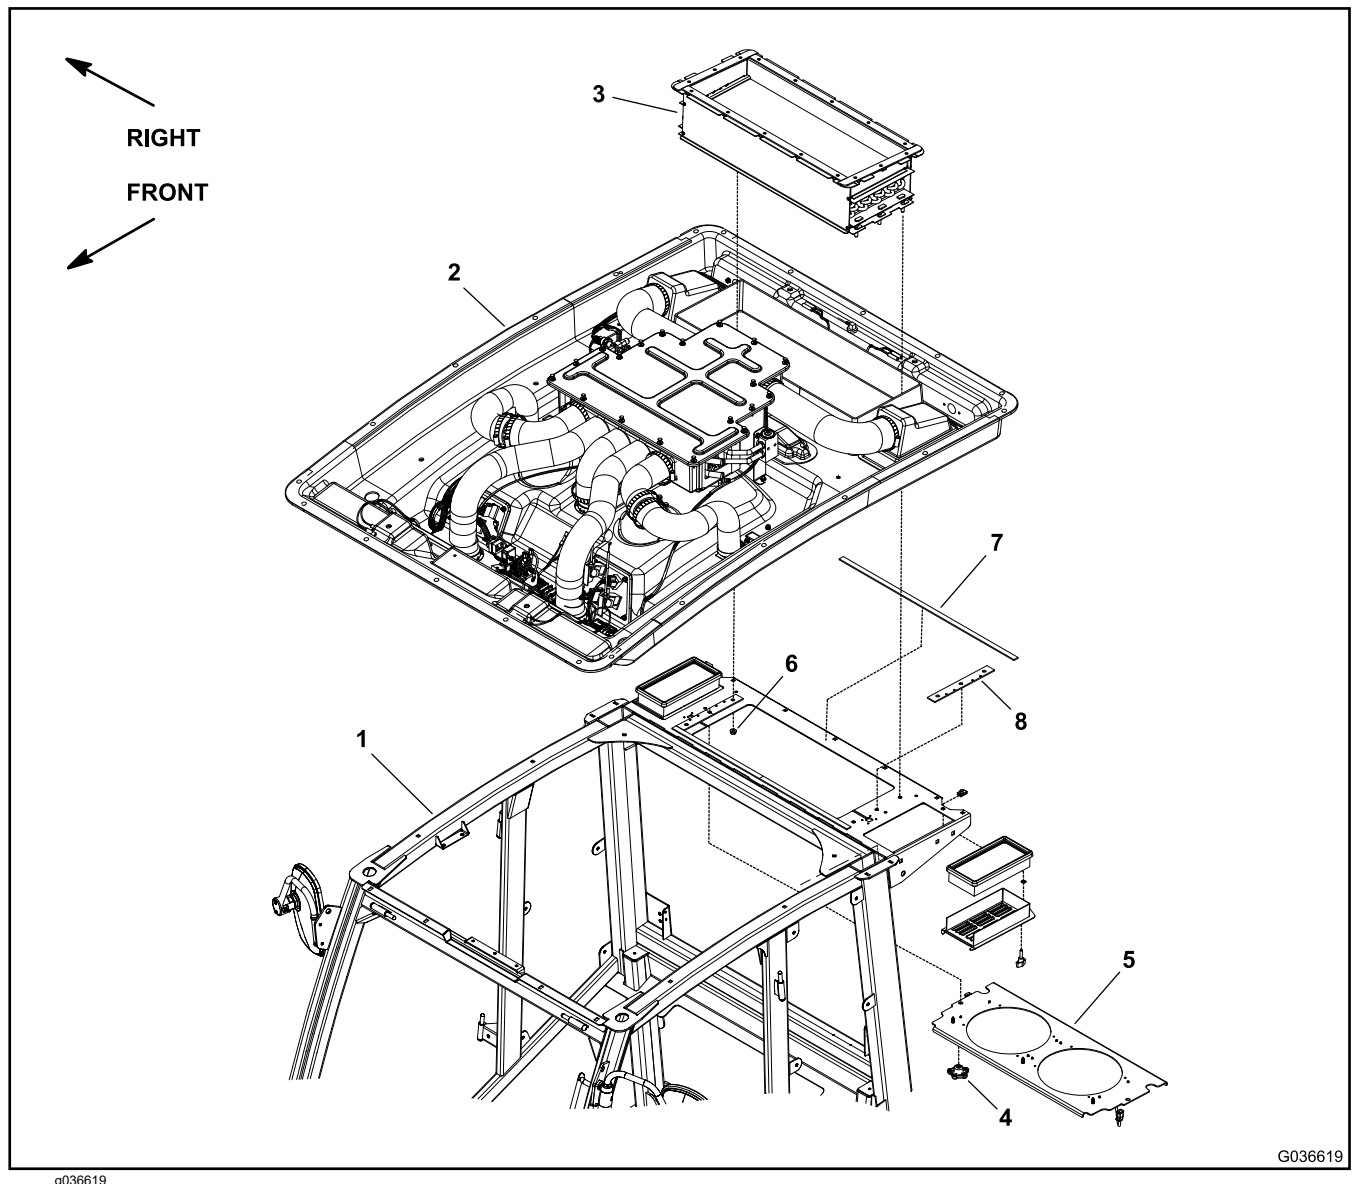

Figure 328
7. Remove the 4 flange nuts (item 6 in Figure 328) that secure the air conditioning condenser assembly to the cab frame.
9. Inspect the seals (items 7 and 8 in Figure 328) on the top of the cab frame for wear or damage and replace the seals if necessary.